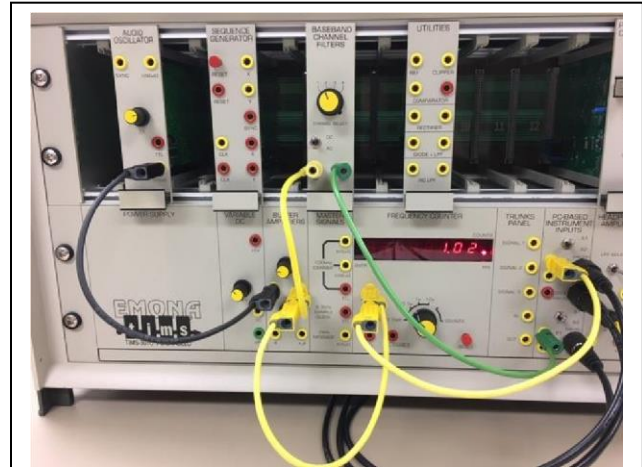

Fig 24 Configuration to view sinusoidal signals
2. Connect the AUDIO OSCILLATOR $\sin(\omega t)$ output to the BUFFER AMPLIFIER input A. See Figure 24 (black lead)
3. Connect the BUFFER AMPLIFIER output k1A to the FREQUENCY COUNTER, THE BASEBAND CHANNEL FILTERS input, and the Scope ChA. See Figure 24 (yellow leads)
□ See Figure 24, green lead.